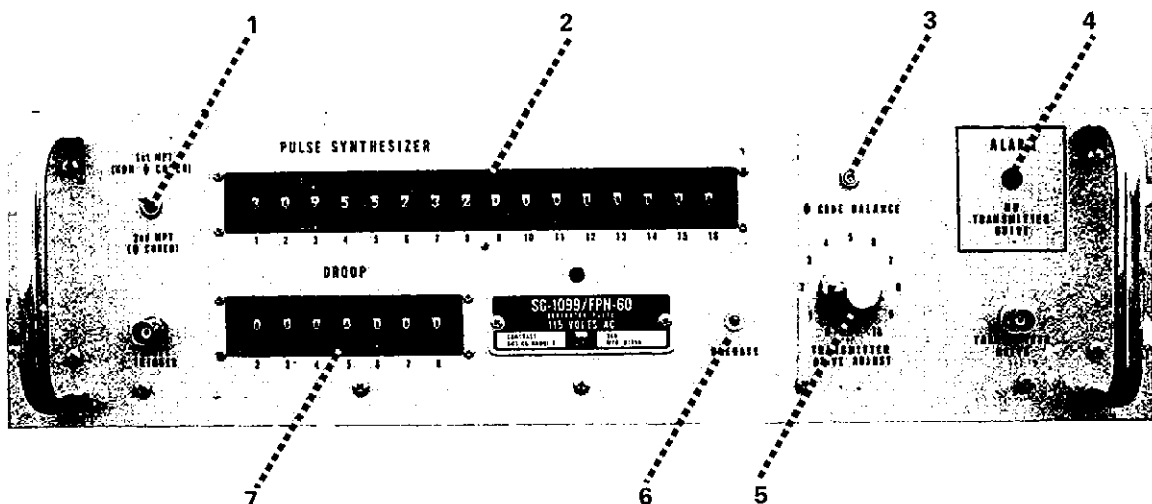

Figure 3.4. PGEN Controls and Indicators
3.2.4 Pulse Generator. The following is a list of the controls and indicators of the PGEN (see Figure 3.4):